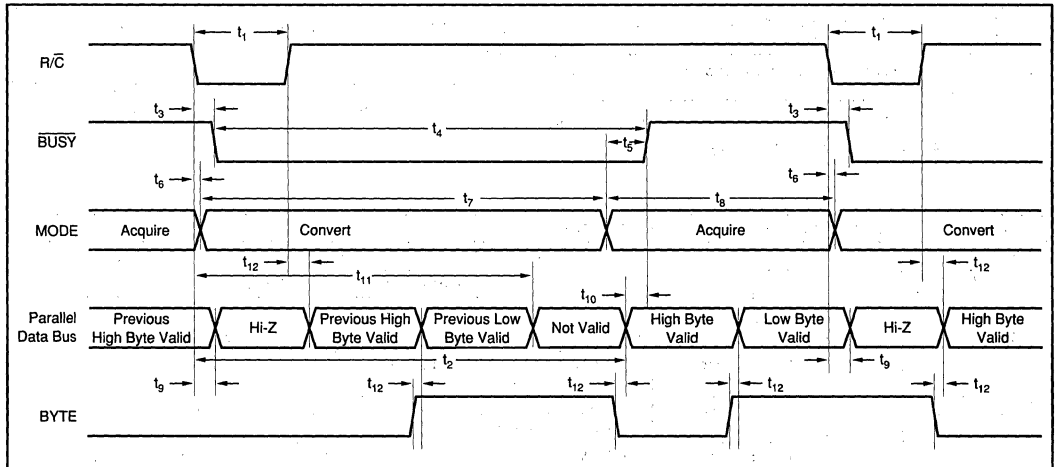

FIGURE 2. Conversion Timing with Parallel Output ($\overline{\text{CS}}$ and DATACLK tied LOW, $\overline{\text{EXT/INT}}$ tied HIGH).
The ADS7807 will begin tracking the input signal at the end of the conversion. Allowing 25μs between convert commands assures accurate acquisition of a new signal. Refer to Tables III and IV for a summary of \overline{CS} , R/\overline{C} , and \overline{BUSY} states and Figures 2 through 6 for timing diagrams.
NOTE: (1) See Figures 2 and 3 for constraints on data valid from conversion "n-1".
After conversion 'n' is completed and the output registers have been updated, $\overline{\text{BUSY}}$ (pin 24) will go HIGH. Valid data from conversion 'n' will be available on D7-D0 (pins 9-13 and 15-17). $\overline{\text{BUSY}}$ going high can be used to latch the data. Refer to Table VI and Figures 2 and 3 for timing constraints.
After conversion 'n' has been initiated, valid data from conversion 'n-1' can be read and will be valid up to $12\mu\text{s}$ after the start of conversion 'n'. Do not attempt to read data beyond $12\mu\text{s}$ after the start of conversion 'n' until $\overline{\text{BUSY}}$ (pin 24) goes HIGH; this may result in reading invalid data. Refer to Table VI and Figures 2 and 3 for timing constraints.